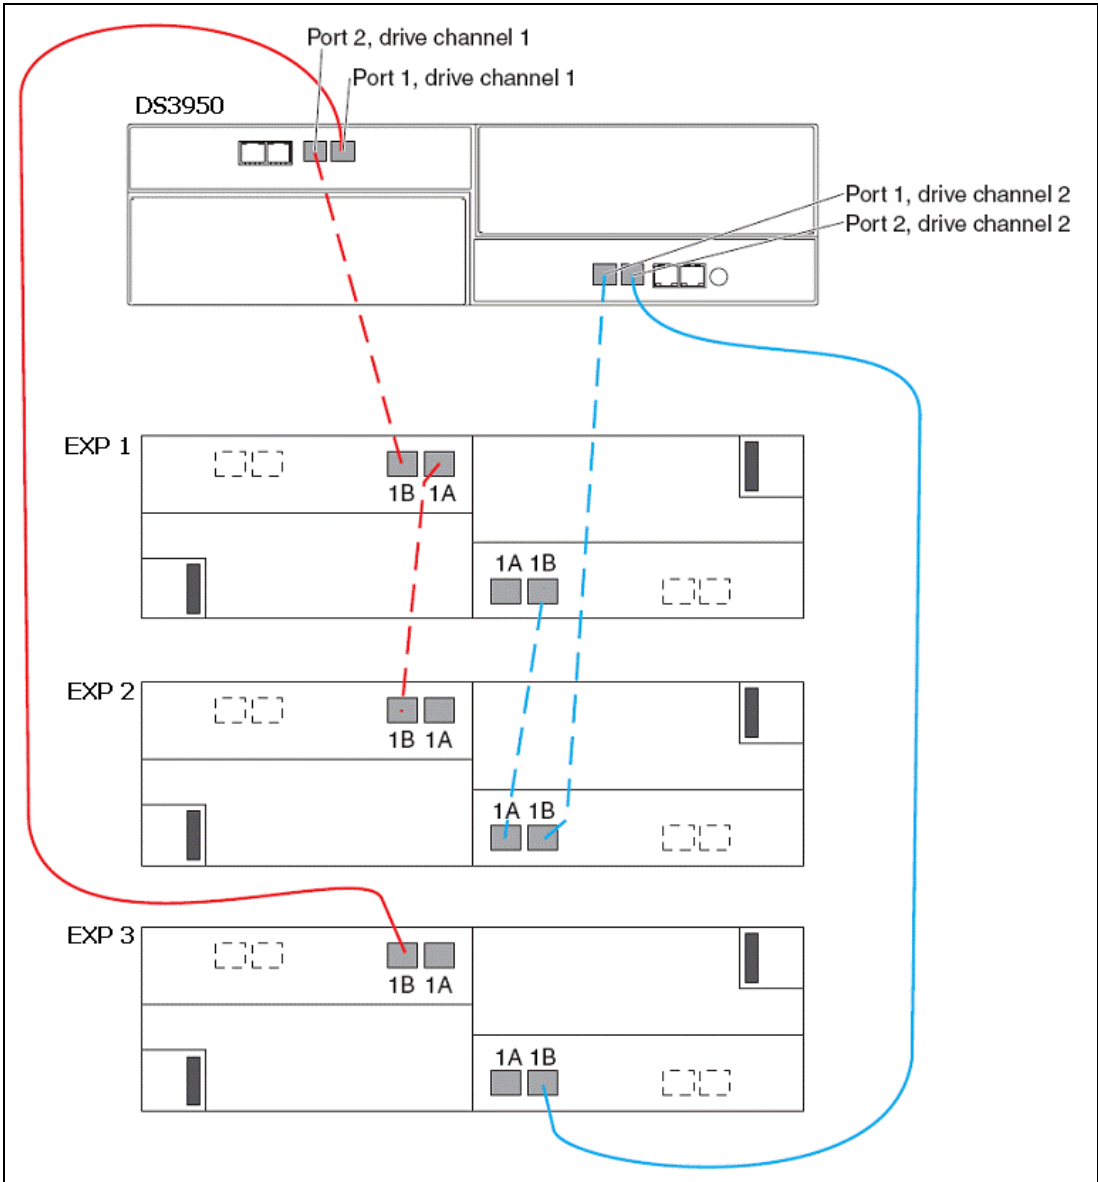
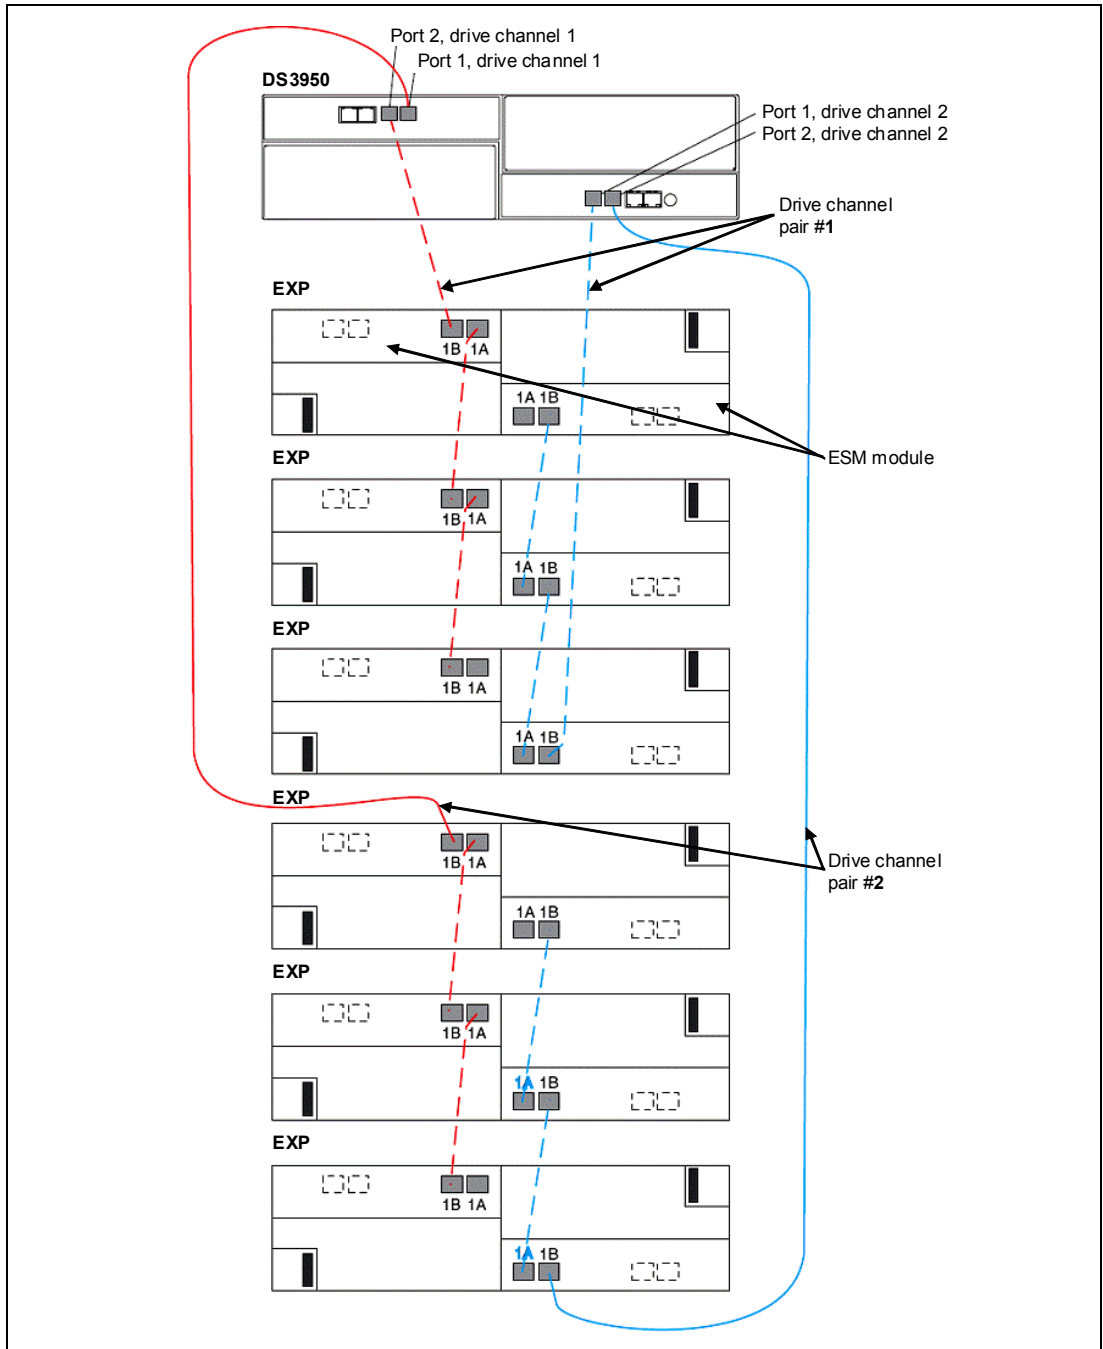

Figure 13 DS3950 drive cabling with three EXPs
Figure 14 DS3950 drive-side cabling with six EXPs
- Beyond one enclosure (up to a maximum of six), make sure that you equally distribute the enclosures among the redundant drive channel pairs by connecting the cascaded enclosure behind the first enclosure, spreading them between both channel pairs as seen in Figure 13 and Figure 14 on page 13.
When six enclosures are required, the same method is employed again, maintaining drive channel redundancy and using both controllers, as shown in Figure 14.